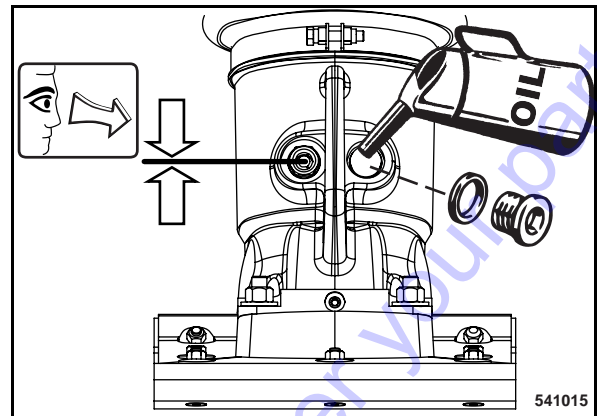

Fig. 53
- Clean the filler plug (Fig. 53) and unscrew it.